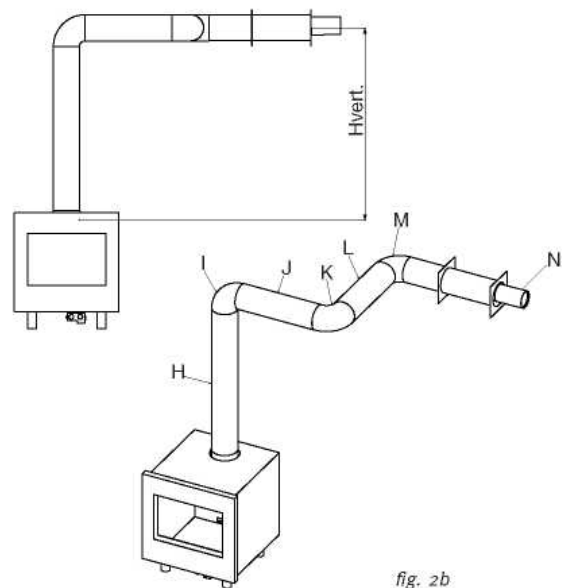

fig. 2b
*Calculati0n horizontal extension fig. 2b:*